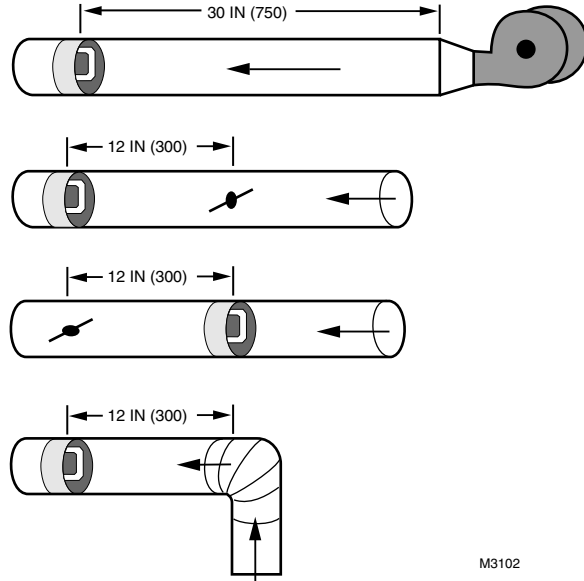

Fig. 9. Location of airflow grid in in. (mm).
- 2 Insert the grid in the exhaust duct. Install so that the arrow on the grid casing points in the direction of the airflow in the duct work. Mount on the warm side of the duct work where airflow turbulence from a fan blower, duct elbow or damper is minimized. Turbulence can result in incorrect airflow measurements. See Fig. 9.